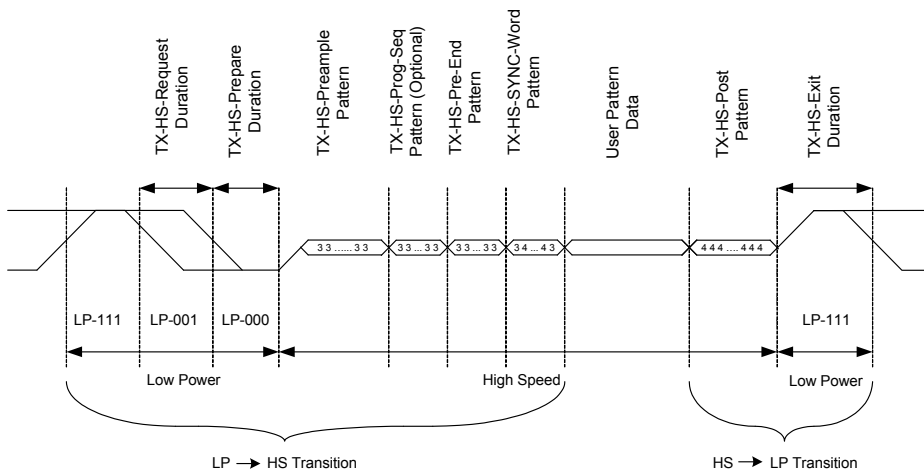

Figure 2 High-Speed Data Transmission in Burst
The sequence of events during the transmission of a Data Burst is shown in Figure 2 on page -11. For any lane, transmission can be started and ended independently by the protocol layer. However, for most applications the lanes will start synchronously but may end at different times due to an unequal amount of transmitted bytes per lane.
**Figure 2** on page -11 shows example of the preamble with the programmable sequence. Seven symbols of value “3” are sent during TX-HS-Pre-End Pattern just prior to sending the Sync Word.